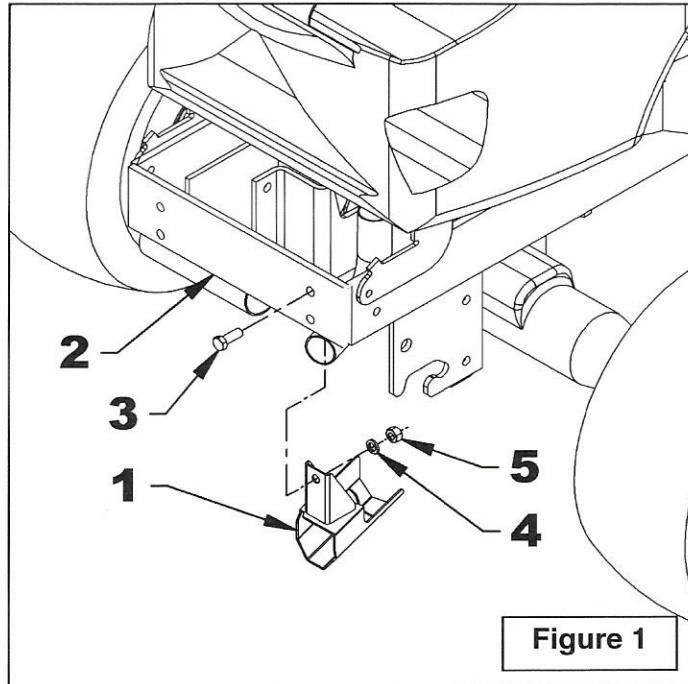

Figure 1
1. **Figure 1:** Remove the heat shield of the exhaust pipe of the tractor and replace it by the new lower heat shield (item 1). Attach it to the tractor frame (item 2) with a 3/8"NC x 1" lg hex bolt (item 3), 3/8" lockwasher (item 4) and 3/8"NC hex nut (item 5).
2. **Figures 1 & 9:** Insert temporarily the 12 1/2 "lg "T" pin (see fig.9, item 3) at the location shown in Figure 9, and make sure there is no interference with the lower heat shield (fig.1, item 1). Otherwise, loosen the 3/8 "NC x 1" lg bolt (fig.1, item 3), adjust the position of the shield and tighten the bolt. Then remove the 12 1/2 "lg "T" pin.